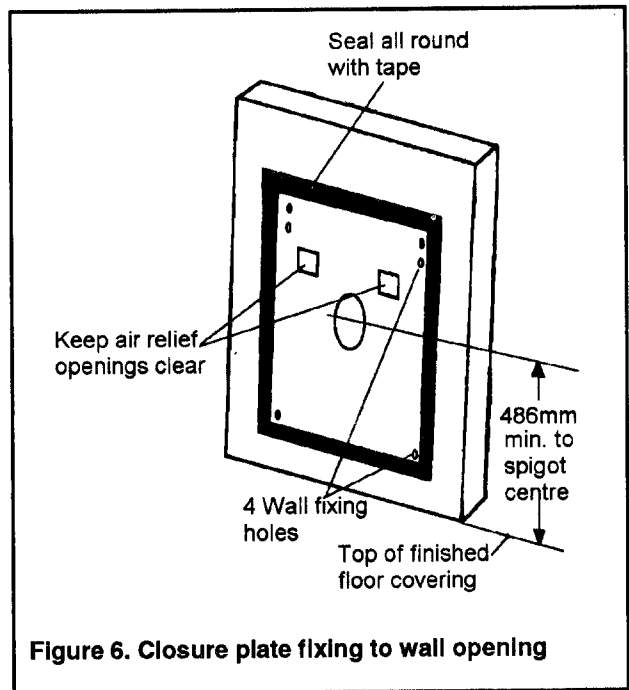

Figure 6. Closure plate fixing to wall opening
3.4.3 Wall mounting (Figure 6)